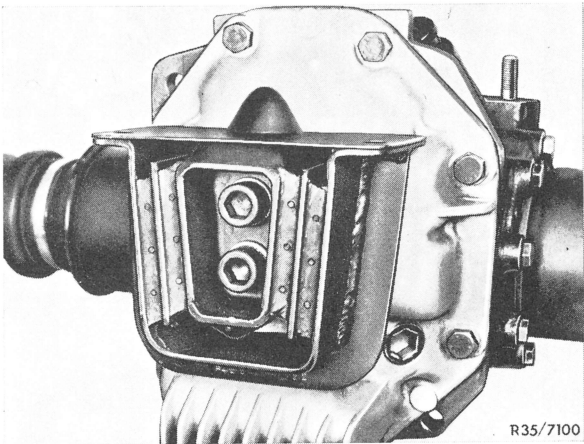

Fig. 3
- 3 Unscrew rubber mount from end cover (Fig. 3).
- 4 Attach rubber mount to end cover, tighten hexagon socket bolts to 120 Nm (12 kpm) (Fig. 3).